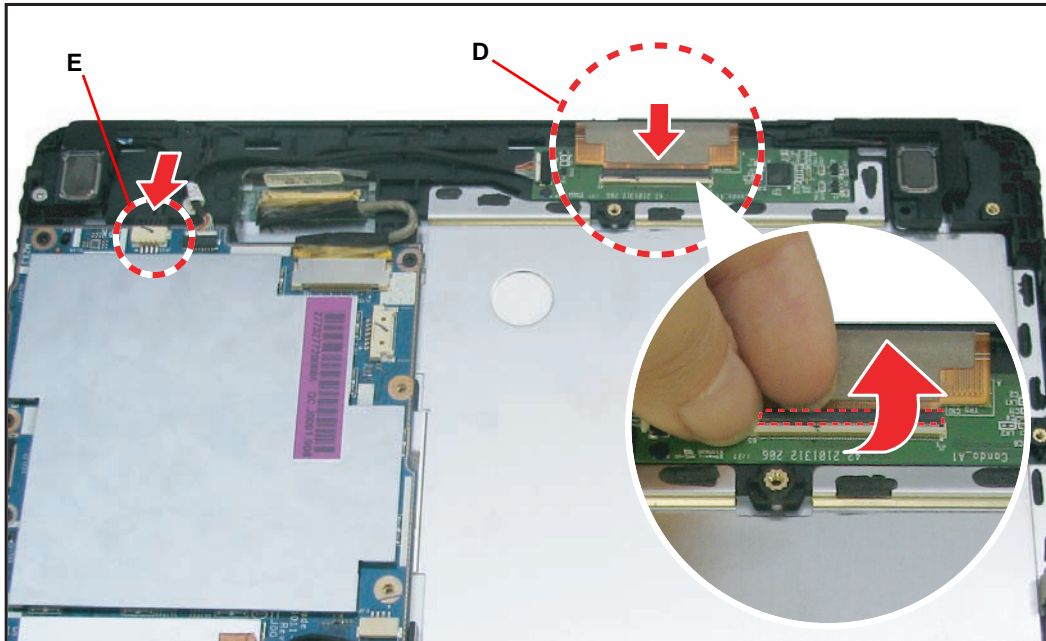

Figure 3:46. Connecting the Cable Connectors
4. Connect the Speakers cable connector (E) to the mainboard. (Figure 3:46)